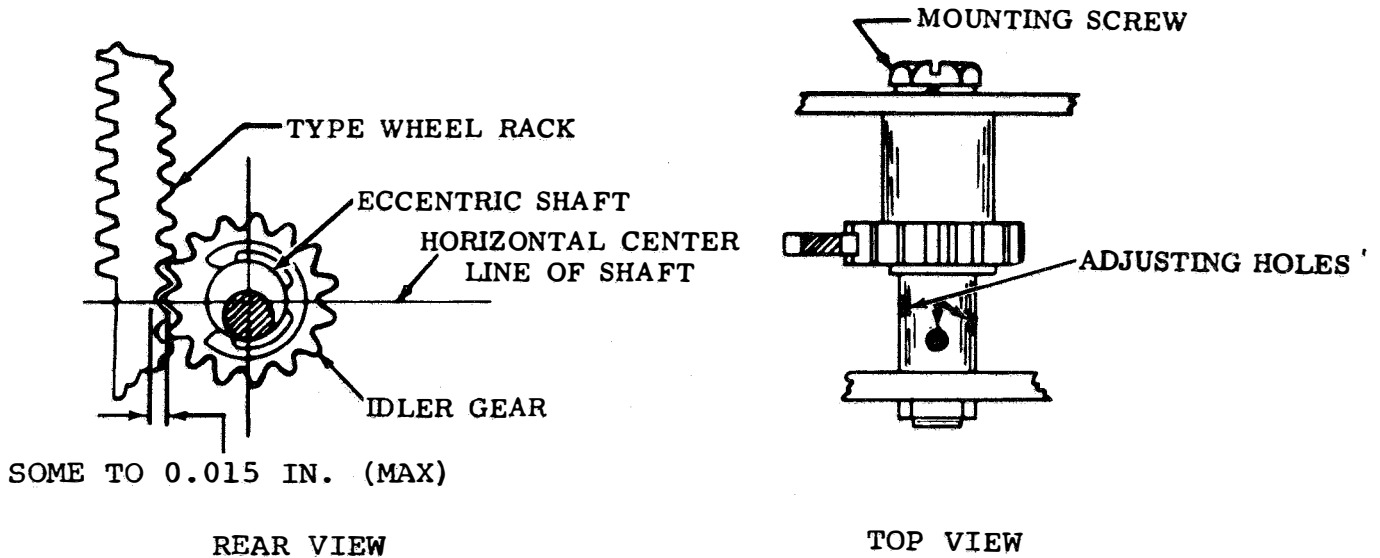

Figure 6-289. Type Wheel Rack Clearance
(28) Type Wheel Rack Clearance. Adjust as follows:
- (a) Refer to Figure 6-289.